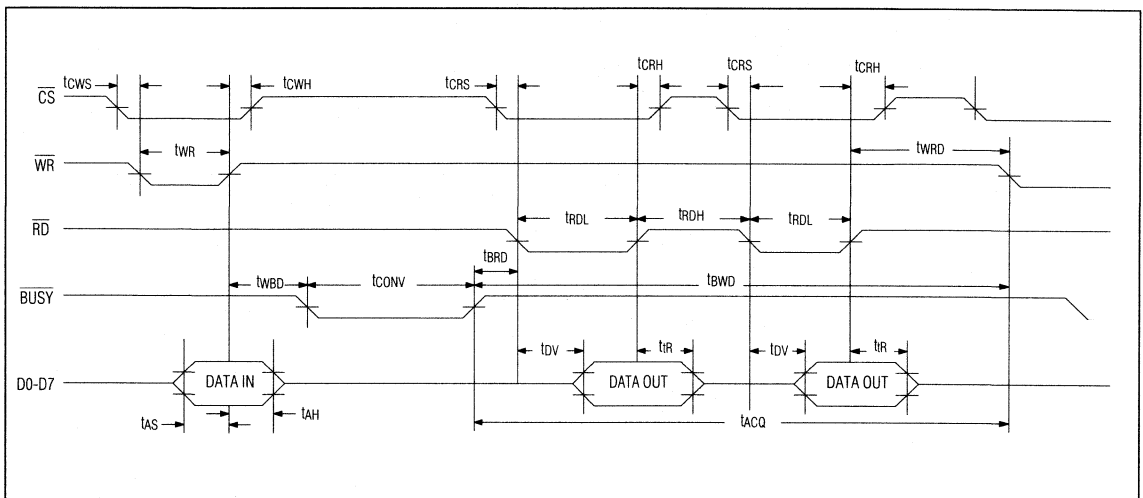

Figure 3. Write and Read Timing
**NOTE:** After power-up, and prior to the above timing sequence, all single-ended channels must be set up by writing the following data into the configuration register. 8 WRs (see Figure 3) are needed for 8 channels: